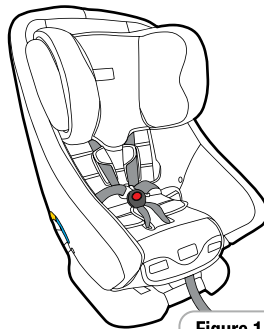

Figure 1
**Step 1:** Remove the insert/s to access the seat cover (refer Figure 1).